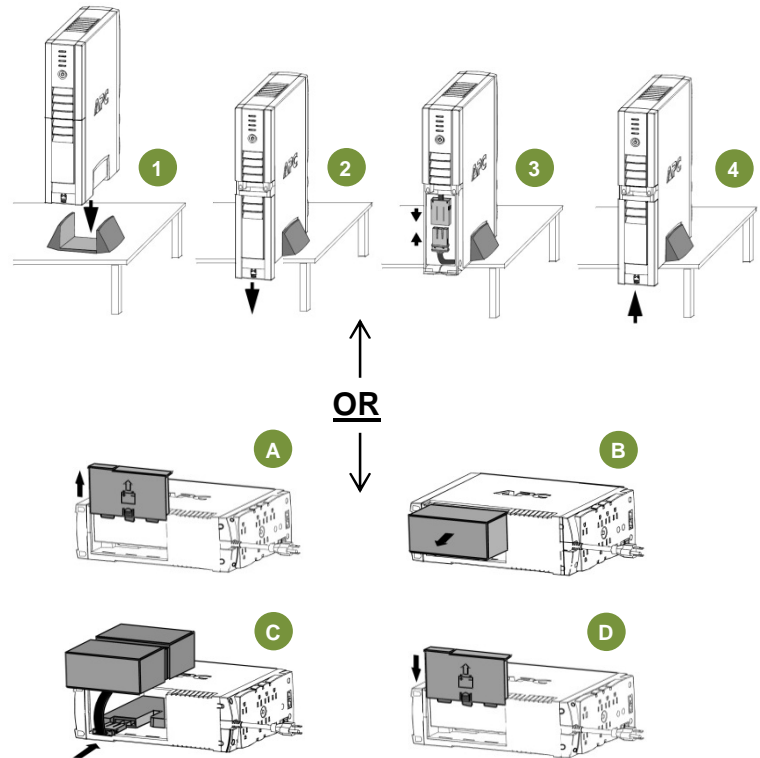

Figure 1
Connect the UPS's Internal batteries (Figure 1):
**NOTE: Battery Cartridge installation will differ depending on UPS model. Figure 1 illustrates some of the variations in Battery Cartridges. Please follow the illustration which best resembles your UPS.**
#### Procedure for Figure 1: (1, 2, 3,4)
#### Procedure for Figure 1: (A,B,C,D)